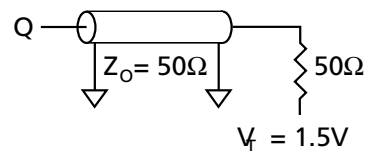

Figure 1
8. Test conditions as specified with the output loading shown in Figure 1 unless otherwise noted.
| Output load | See Figures 1 and 2 |